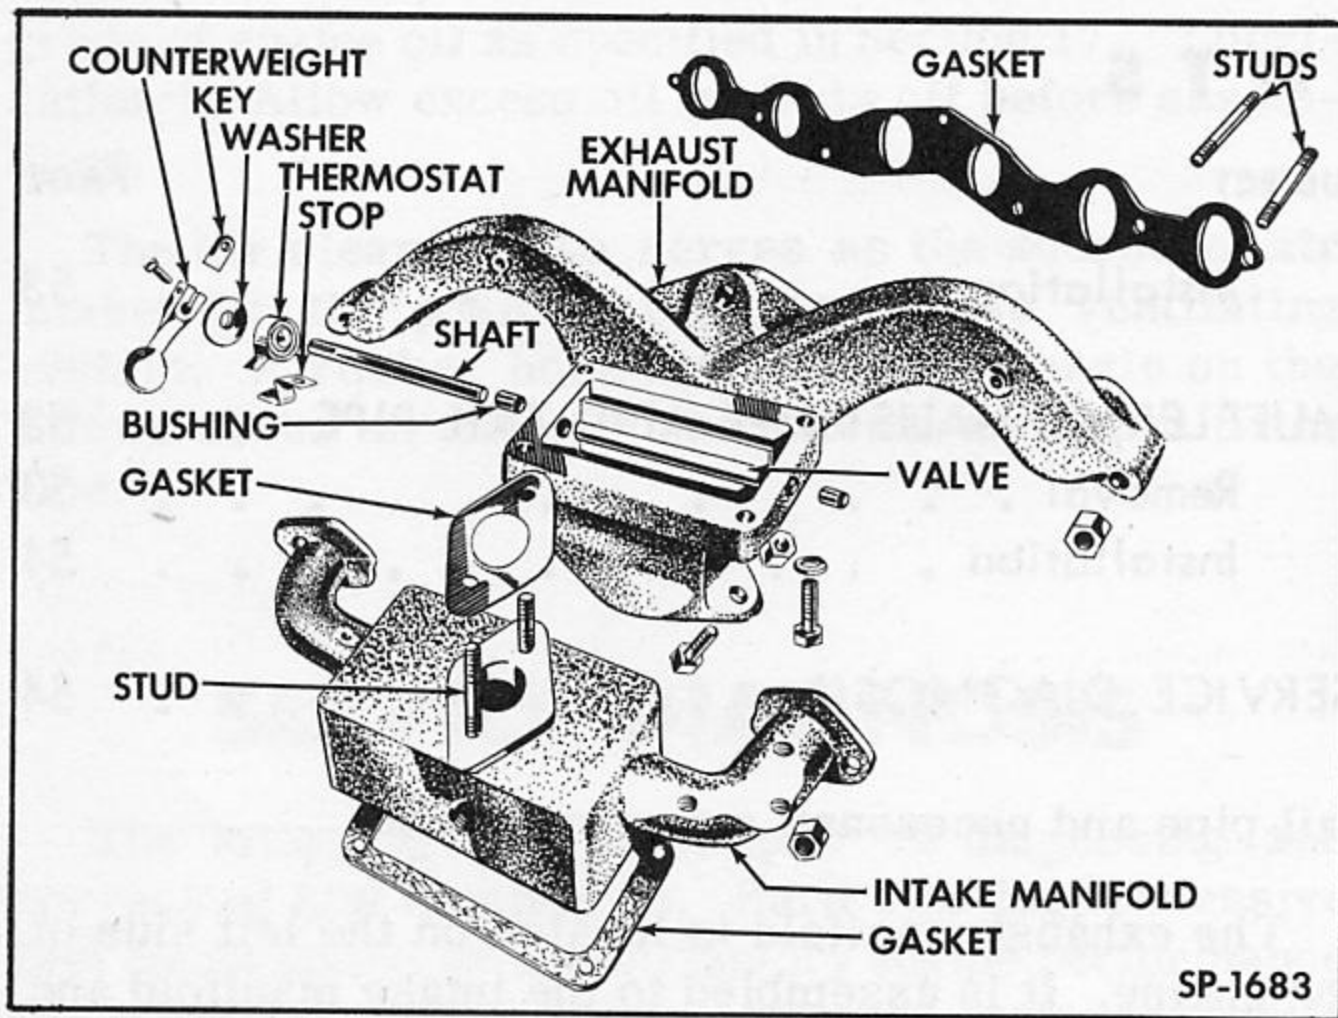

Fig. 82—Exhaust and Intake Manifolds—4 Cylinder—Exploded View
4. Install thermostat, thermostat washer, key and counterweight on slotted end of shaft as shown in Fig. 82 and 83.